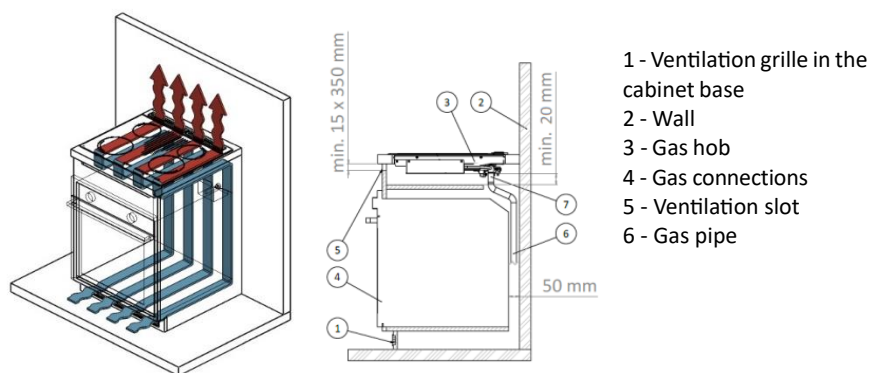

Fig. 5 How to install the cooker above an oven
- Due to the need to ensure air circulation in the cabinet base, an air inlet grill should be installed as shown in Fig. 5.